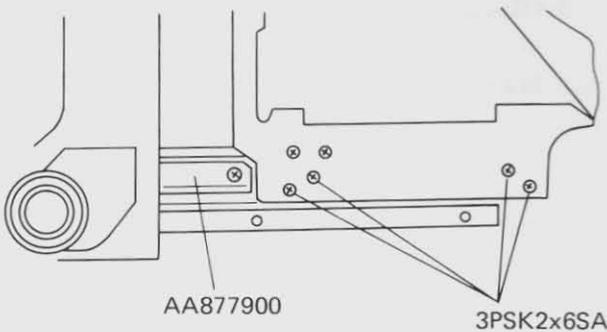

Fig. 11-1
- 11-1-1 Remove Specimen holder unit by drawing 4 Screws 3PSK2x6SA. (See Fig. 11-1)
- 11-1-2 Remove Rack AA877900 by drawing 3 Screws 3PUK2x6SA. (See Fig. 11-1)
11-2-12 Assemble Specimen holder unit with 4 Screws 3PSK2x6SA. (See Fig. 11-1)
11-3-1 Remove Specimen holder unit by drawing 4 Screws 3PSK2x6SA. (See Fig. 11-1)